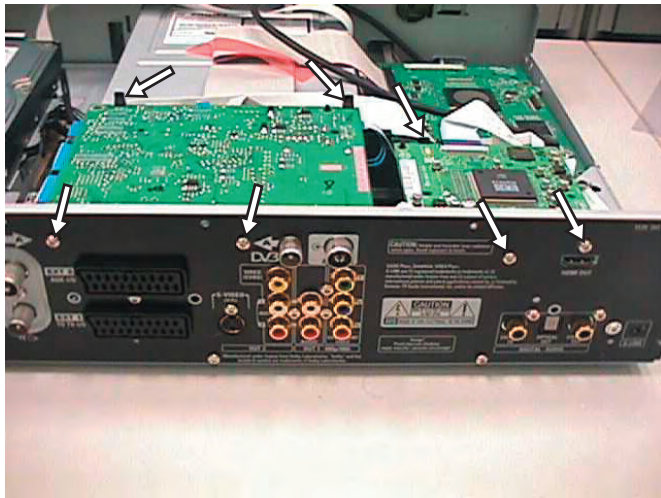

Figure 4-11
- 1) Remove 4 screws and 3 catches the HDMI board (1x) and DTTM board (2x) as shown in Figure 4-11.